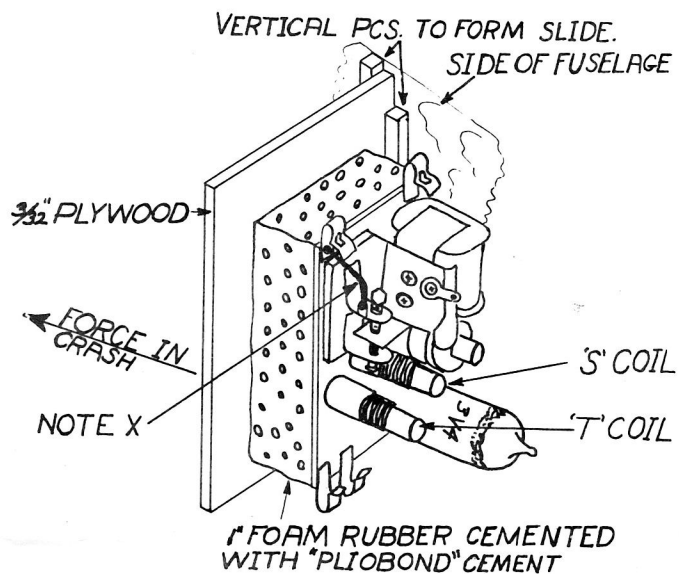

Fig 2
3.1 The "crash-proof" mounting (Figure 2) is a method of mounting the set so that the components are stressed to best resist the shock of a crash. In Fig. 2 the receiver is shown glued directly to the sponge rubber. Rubber bands from the plywood mount around the receiver at each end can be used in place of the glue which allows the receiver to be more readily removed. Also a 1/4 to 3/8" thick soft balsa sheet relieved to fit the soldered back of the receiver and placed between the sponge and the receiver will provide additional support.
3.4 Batteries may be mounted anywhere to provide balance. Be sure to mount batteries in front of receiver if crash-proof mounting (Fig. 2) is used. It is convenient to mount them on the front of the plywood board.
- 8.1 Looking at the top of the receiver identify T & S coils. (Fig. 1 and Fig. 2) The T coil adjusts the tuning and the S coil adjusts the sensitivity.
- 8.2 If the receiver is properly connected, including the antenna, and the filament turned on, the plate current, as read by a meter plugged into the jack (as described in paragraph 6.4) or wired in series with the \div B lead, may be anywhere between 0.5 M.A. and 1.5 M.A. plus. If current is off meter scale insert a 500,000 ohm potentiometer or volume control, such as used in a radio set, in the series with \div B (Fig. 5) and bring reading on scale. (A simple way to insert the potentiometer is to remove the \div B lead from the Fahnestock clip and connect the potentiometer between the lead and the clip.) Turn OUT (Counter-clockwise) the slug marked S, (identify S coil slug Fig. 1 & Fig. 2), until the meter reads a steady maximum.
Turn on the Citizen-Ship "27" Transmitter with antenna plugged in and press the operate button. Turn slug T (identify in Fig. 1 & Fig. 2) in and out until plate current drops. Tune slug T for LOWEST value of plate current that shows a definite valley - i.e. goes through a minimum as the slug is rotated in or out.